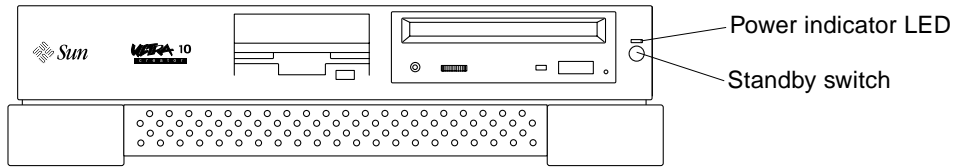
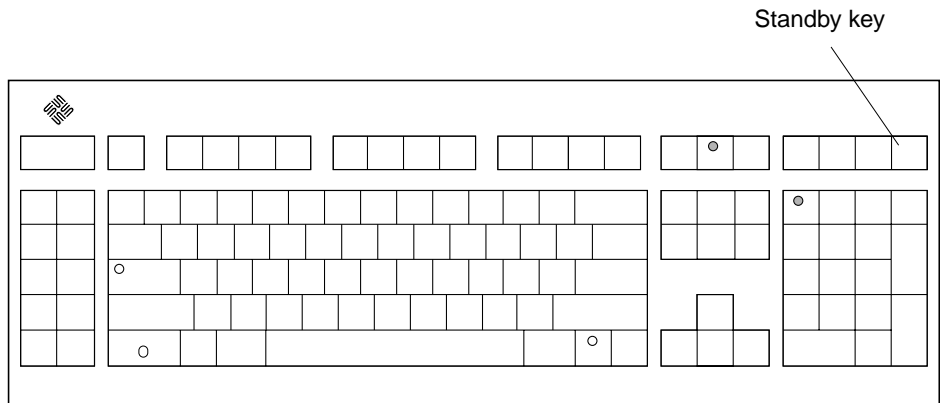

FIGURE 1-10 Ultra 5 System Standby Switch
FIGURE 1-11 Sun Type-5 Keyboard
5. If the system does not begin to power up, press the Standby switch (FIGURE 1-10), or press the Sun Type-5 keyboard Standby key (FIGURE 1-11) or the Sun I/O Type-6 keyboard Power key (FIGURE 1-11).